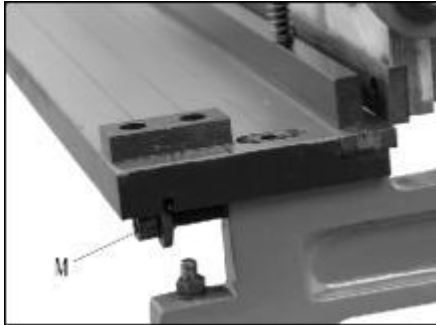

Figure 8
3. Rotate adjustment screws (M, Figure 8) to shift table and change the gap between blades. **Do not allow the blades to overlap.**